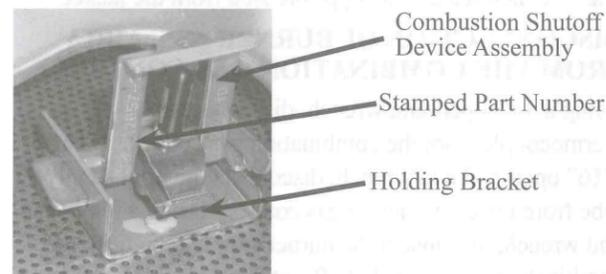

Figure 2 - Combustion Shutoff Device Assembly In Place
**CAUTION :** Verify Replacement Combustion Shutoff Device Assembly part number matches the part number of the assembly removed. This part is unique to the water heater model. Contact technical services to verify correct part number, if necessary. The part number is stamped on the metal bracket as shown in Figure 2. See chart at top of next page.
**NOTICE: If the glass bulb is still in place, refer to troubleshooting section in the Use and Care manual supplied with the water heater to determine the nature of the service complaint. See Figure 2.**